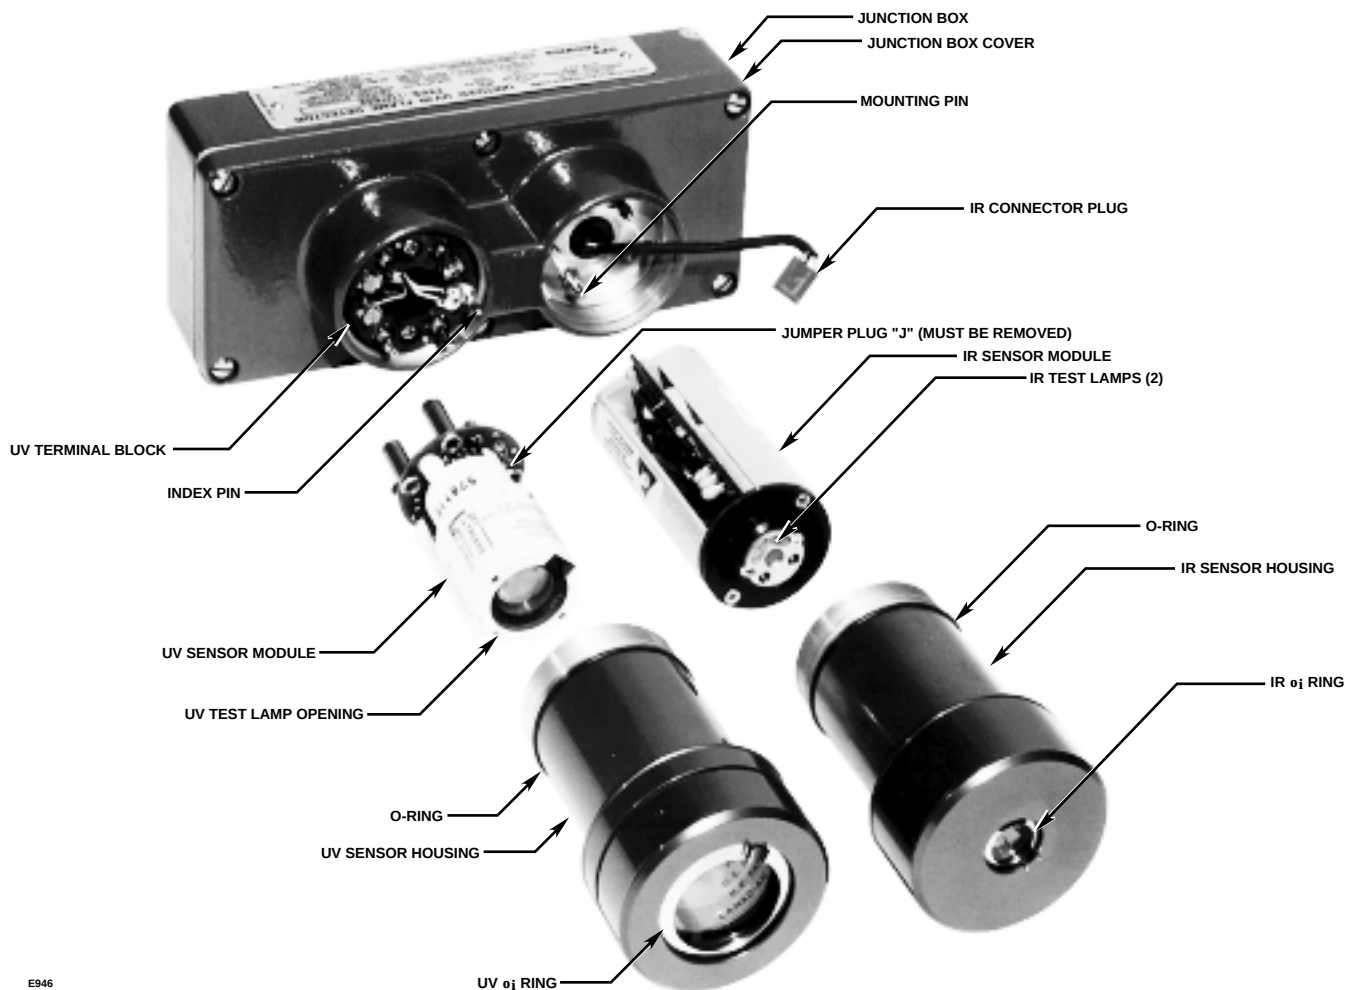
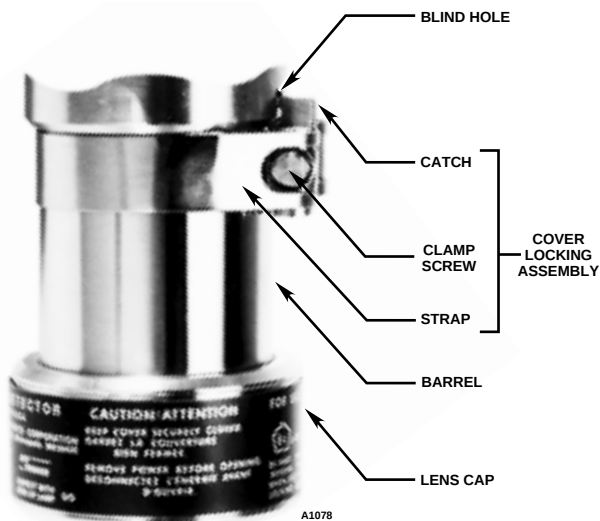
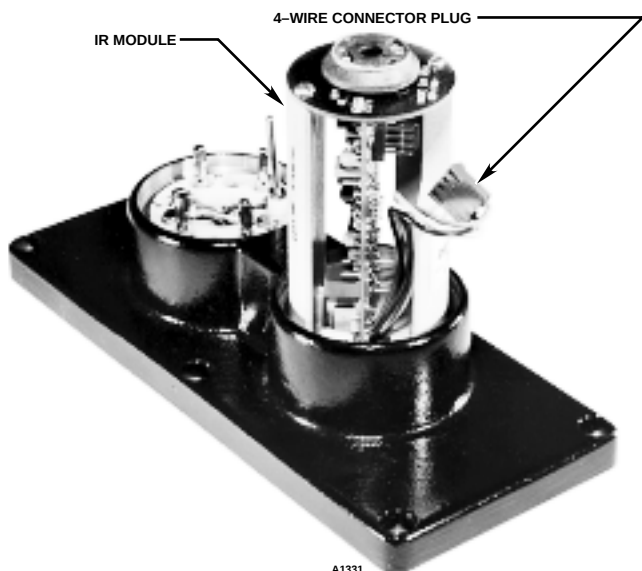

Figure 11—C7052J Detector Part Identification
Figure 16—Cover Locking Assembly (Optional)
Figure 18—IR Module with Four-Wire Connector
2. Remove the junction box cover assembly from the base by loosening the six screws on the cover (see Figure 11).
6. If the UV and/or IR sensor modules are already installed in the detector housing, proceed to step 12. If the sensors are not installed, remove the applicable sensor housings from the junction box cover (see Figure 11). If the detectors are equipped with a cover locking device (see Figure 16), loosen the clamp and disengage the "catch" from the blind hole. The tool required is a 5/32-inch hexagonal (Allen) wrench.
8. Determine the proper orientation for the UV module by lining up the long index pin on the terminal block with the hole in the printed circuit board of the module. See Figure 11. Firmly press the module into place on the terminal block, taking care not to touch the glass envelope of the sensor module, since fingerprints can absorb UV radiation and reduce the sensitivity of the sensor.
9. If the IR sensor is already installed, proceed to step 12. If the IR sensor is not installed, remove the IR module from its shipping package (avoid touching the IR sensing element at the top of the module). Two IR sensor designs exist; the DE5500 is electrically connected via a wire harness on the junction box that must be threaded through the sensor module to a connector at the top of the module (see Figure 18), the DE3895 plugs directly onto a terminal block in the base of the IR housing via connectors on the bottom of the IR sensor module (see Figure 11).
11. If the IR sensor is the DE5500 type that connects via a wire harness (Figure 18), thread the wire leads and keyed connector plug through the slotted opening on the side of the IR module. Plug the IR module into the two banana plugs inside the junction box cover. If repositioning is necessary to properly align the **oi** lamps (as described in the "NOTE" below), this module can be rotated 180° and remounted on the banana plugs.
13. Check the O-rings on both sensor housings to be sure that they are in good condition and are fitted properly, then re-install the sensor housings on the junction box cover. (See the "Maintenance" section for information regarding care of O-rings.) The sensor housing with the large viewing window is for the UV detector and the sensor housing with the small window is for the IR detector. Hand tighten the sensor housings into the base until the O-rings are fully seated to maintain the explosion-proof and watertight integrity of the housing. If the unit is equipped with cover locking clamps, loosen the clamps sufficiently so that the clamp catches can be seated in the blind holes on the junction box cover. Fasten the clamps securely using a 5/32 inch hexagonal (Allen) wrench. (See Figure 16.)